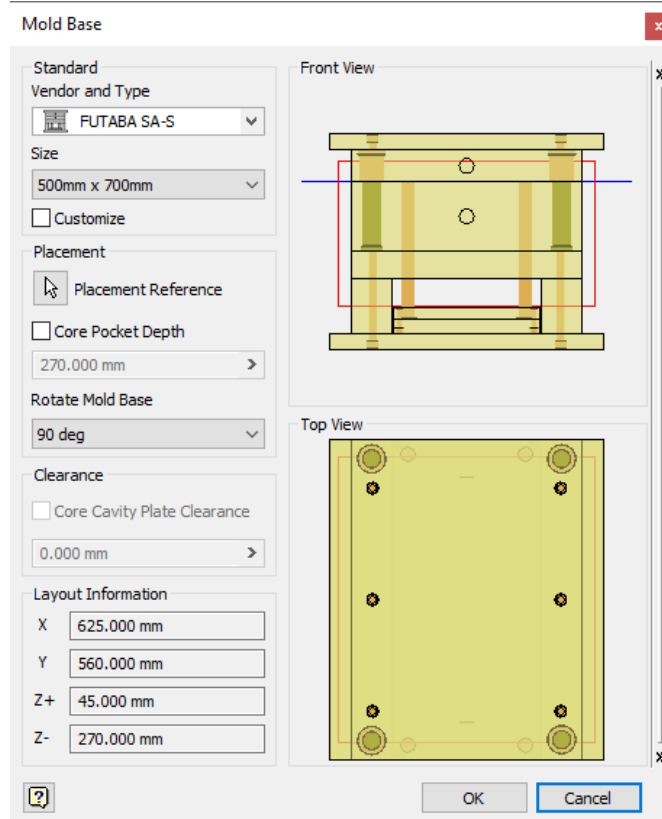

Figure 19-84 The Mold Base dialog box
1. Choose the **Mold Base** tool from the **Mold Assembly** panel in the **Mold Assembly** tab of the **Ribbon**; the **Mold Base** dialog box is displayed, as shown in Figure 19-84.